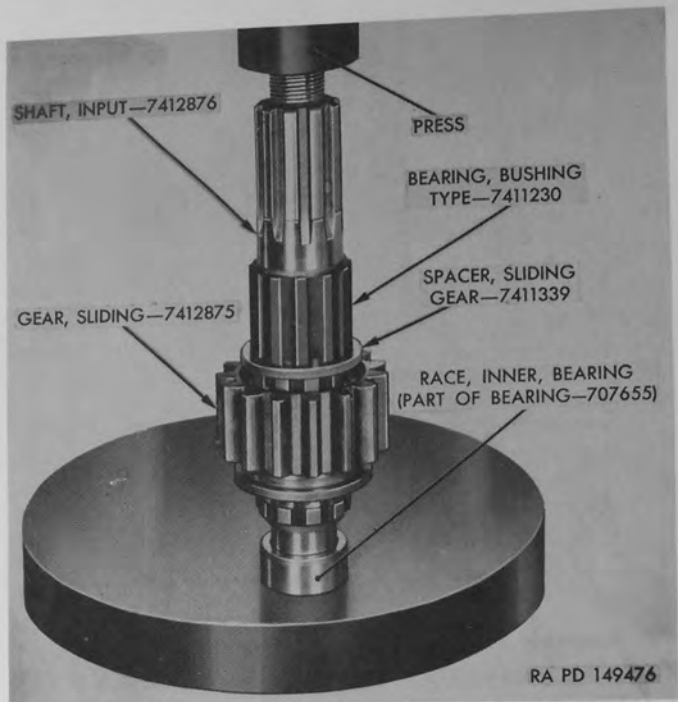
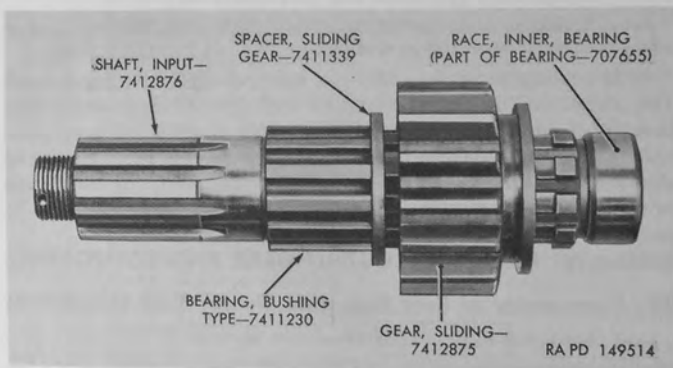
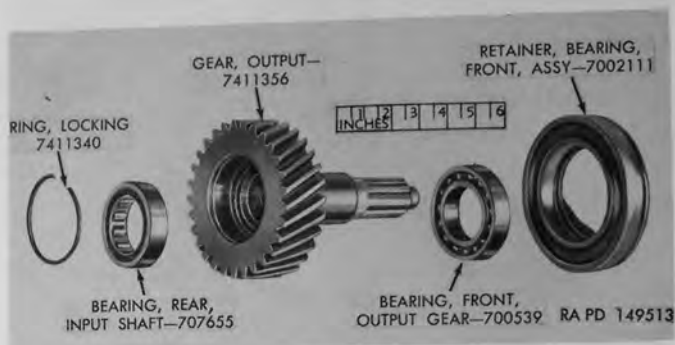
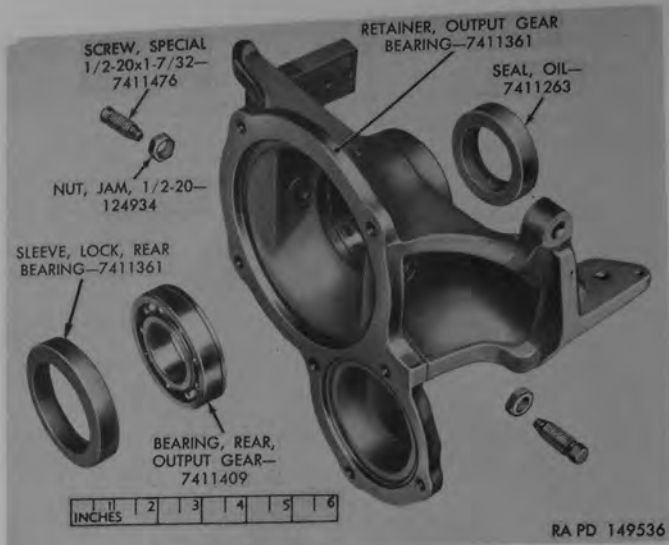

Figure 62. Use of arbor press to install input shaft bearing inner race.
Figure 63. Input shaft and components assembled for installation in transfer case.
Figure 65. Output gear, bearings, and related components.
Figure 67. Output gear bearing retainer and related components.
b. If bearing inner race (N) has been removed from input shaft (M), install sliding gear (L) on shaft with shifter fork groove toward rear end of input shaft; then support bearing inner race on press plate and press input shaft into inner bearing race (fig. 62). Figure 63 shows input shaft and components assembled and ready for installation in transfer case.
a. *Cleaning.* Wash all output gear components shown in figure 65 in dry-cleaning solvent or volatile mineral spirits, and wipe or blow dry.
- (1) Examine gear teeth on output gear for wear, nicks, and chipped or broken teeth. Also inspect splines and threads at rear end of shaft which is forged integral with output gear. If any damage is found, discard gear as no repair is recommended on this part.
- (2) Inspect front bearing retainer assembly (fig. 65) for damage and check $\frac{1}{8} \times \frac{3}{8}$ dowel pin ((S), fig. 52) which should be tight in hole in retainer.
- (3) Examine output gear front bearing, which is single-row ball type. Rotate bearing races by hand to detect roughness. If races or balls are rough or if excessive wear is indicated by looseness of parts, obtain a new bearing for use when assembling.
- (4) Visually inspect surface of rollers in input shaft rear bearing (fig. 65). Note condition of roller separator. Place roller bearing assembly on bearing inner race (installed at rear end of input shaft, fig. 63) and check for radial clearance. If excessive looseness is evident, obtain new bearing assembly for use when assembling.
- (5) Check bearing locking ring for distortion.
a. Loosen jam nuts on $\frac{1}{2}$ -20 x $1\frac{17}{32}$ special screws (fig. 67); then remove two special screws which hold rear bearing lock sleeve (L) in contact with output gear rear bearing (M). Remove rear bearing lock sleeve (L) from output gear bearing retainer (K).
b. Remove and discard oil seal (N) installed at rear of output gear bearing retainer; then using a suitable driver and light-weight hammer, remove output gear rear bearing (M), driving bearing off toward front side of retainer.
a. *Cleaning.*—Wash all components (fig. 67) in dry-cleaning solvent or volatile mineral spirits. Wipe parts or dry with air.
b. Inspection (fig. 67).
- (1) Visually inspect output gear bearing retainer for damage, cracks, and warpage. Front machined surface which contacts gasket must be flat. Inspect threads in tapped holes.
- (2) Check threads on special screws and jam nuts, and replace any damaged parts.
- (3) Rotate races of output gear rear bearing by hand to detect roughness. Examine bearing races for cracks. If bearing is damaged or excessively worn, replace with new bearing.
- (4) Examine rear bearing lock sleeve. Obtain new sleeve if old sleeve is broken or distorted.
- a.* Install output gear rear bearing (M) in recess in output gear bearing retainer (K). Place rear bearing lock sleeve (L) against
bearing; then thread one $\frac{1}{2}$ -20 jam nut on each of two $\frac{1}{2}$ -20 x $1\frac{7}{32}$ special screws (fig. 67), coat screw threads with plastic type gasket cement, and install screws in tapped holes in output gear bearing retainer (K). Conical points on screws must engage tapered side of rear bearing lock sleeve (L). Tighten screws to torque of 20 to 25 pound-feet to force sleeve firmly against outer race of bearing, then tighten jam nuts.
b. Place output gear bearing retainer on flat surface and coat oil seal recess with plastic type gasket cement. Drive new oil seal (N) into recess with spring-loaded lip pointing inward. Use wood block or suitable driver to apply pressure at outer circumference of seal assembly.
c. Locate front bearing retainer assembly (J) with $\frac{1}{8}$ x $\frac{3}{8}$ dowel pin (S) aligned with notch in output gear bearing retainer (K); then drive front bearing retainer assembly (J) into counterbore in output gear bearing retainer. Insert splined end of output gear and bearing assembly shown in figure 65 through front bearing retainer assembly (J) and out through output gear rear bearing (M). Coat surface of oil seal sleeve on flange assembly (R) with universal gear lubricant; then install flange assembly on splines at rear end of output gear (E). Drive flange assembly onto splines far enough to install $\frac{7}{8}$ -14 nut and partially tighten nut to pull gear and bearing assembly into place in output gear bearing retainer (K). Final tightening of nut is done